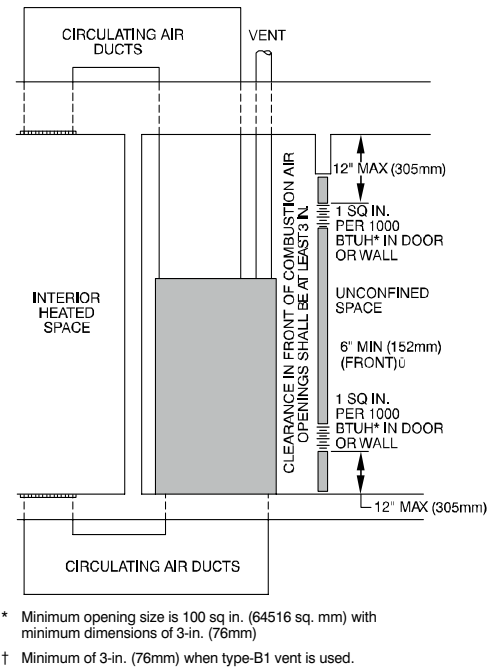

Fig. 7 – Air for Combustion, Ventilation, and Dilution from Indoors
- b. Combining spaces on same floor level. Each opening shall have free area of at least 1 in.2/1,000 BTU/h (2,000 mm2/kW) of the total input rating of all gas appliances in the space, but not less than 100 in.2 (0.06 m2). One opening shall commence within 12 in. (300 mm) of the ceiling and the second opening shall commence within 12 in. (300 mm) of the floor. The minimum dimension of air openings shall be at least 3 in. (80 mm). See Fig. 7.